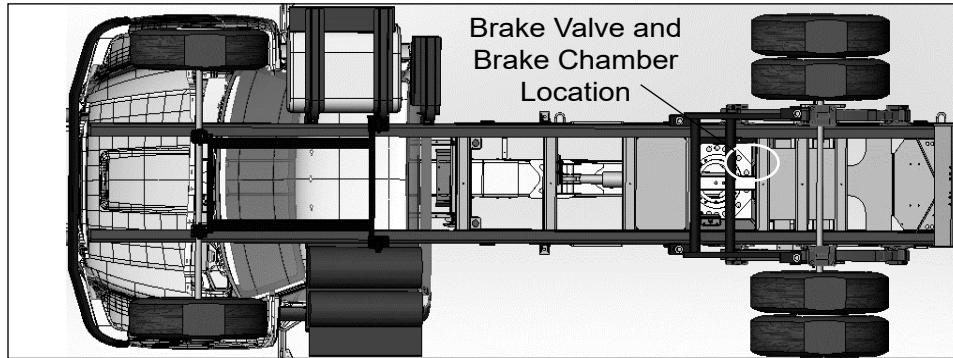

Figure 1 – Underside of Chassis
2. Find the brake valve located on the street side of the chassis directly below the pedestal and above the brake chamber (refer to Figures 1 and 2).